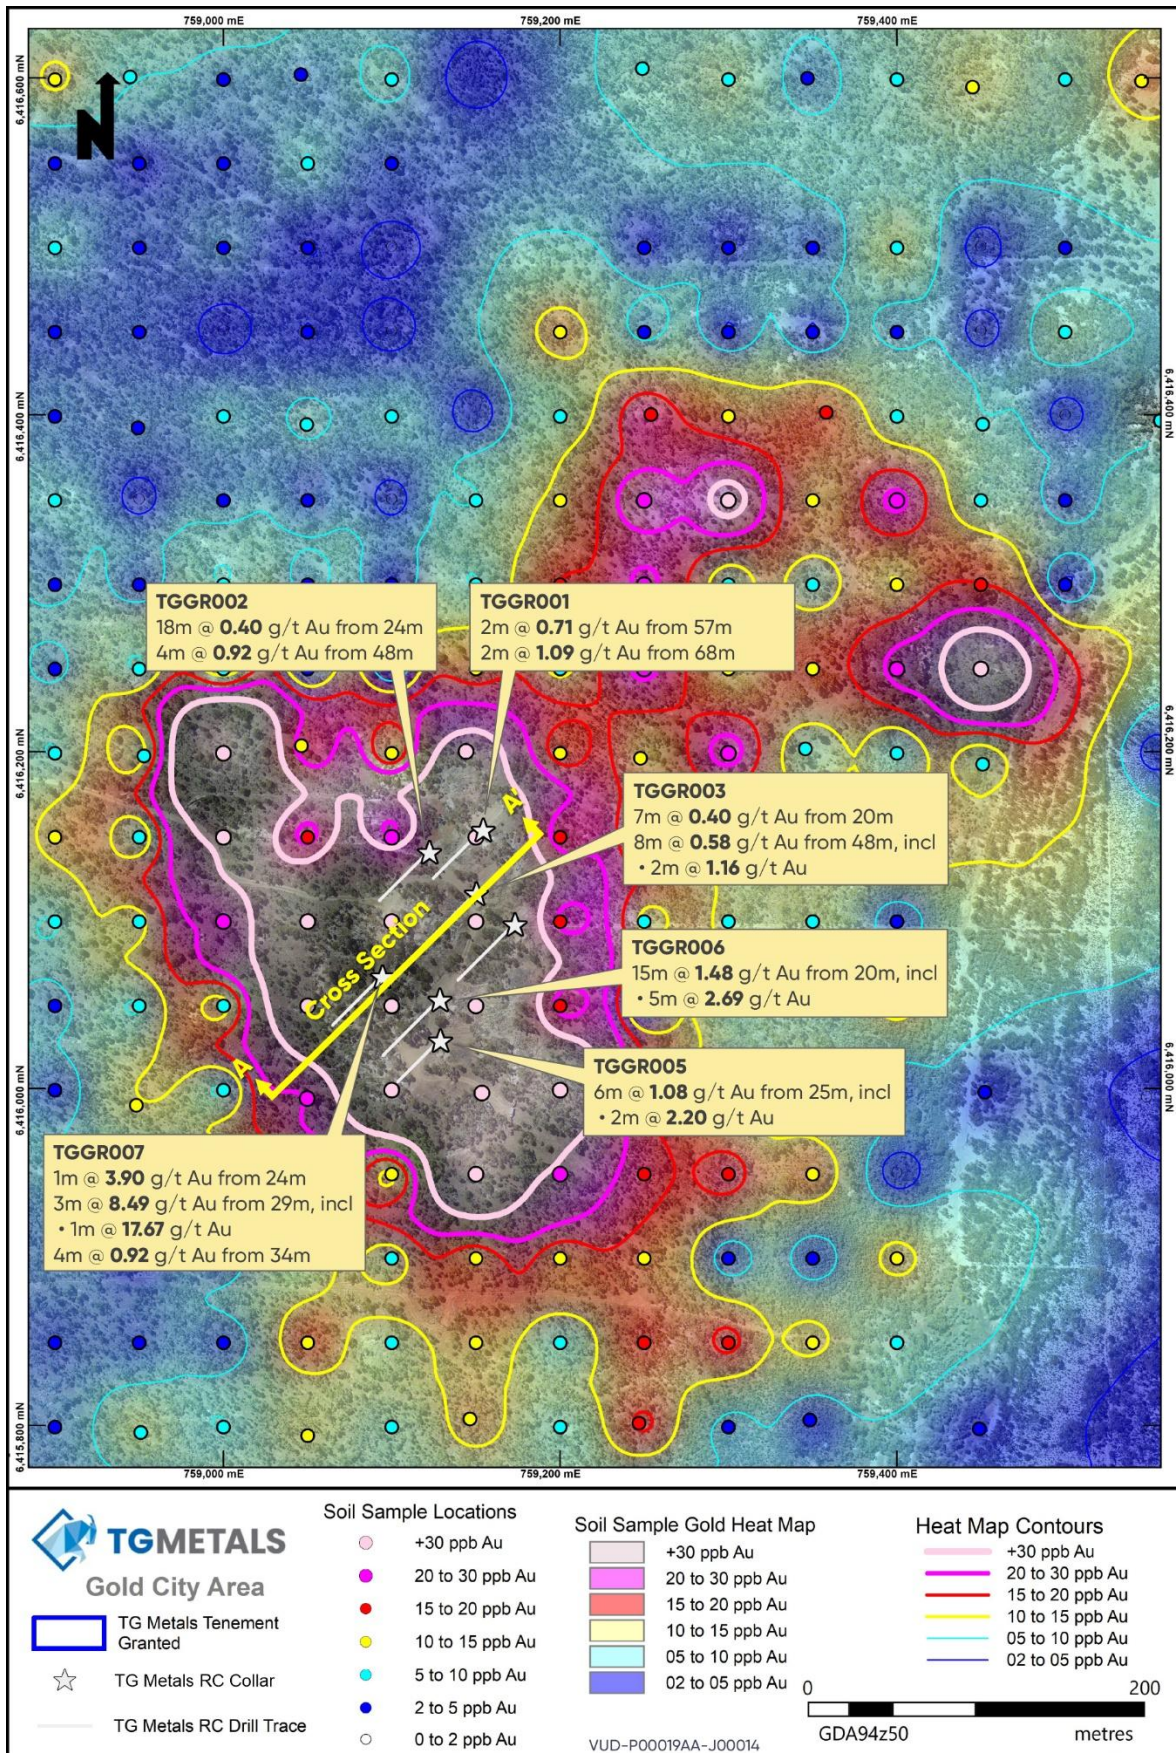
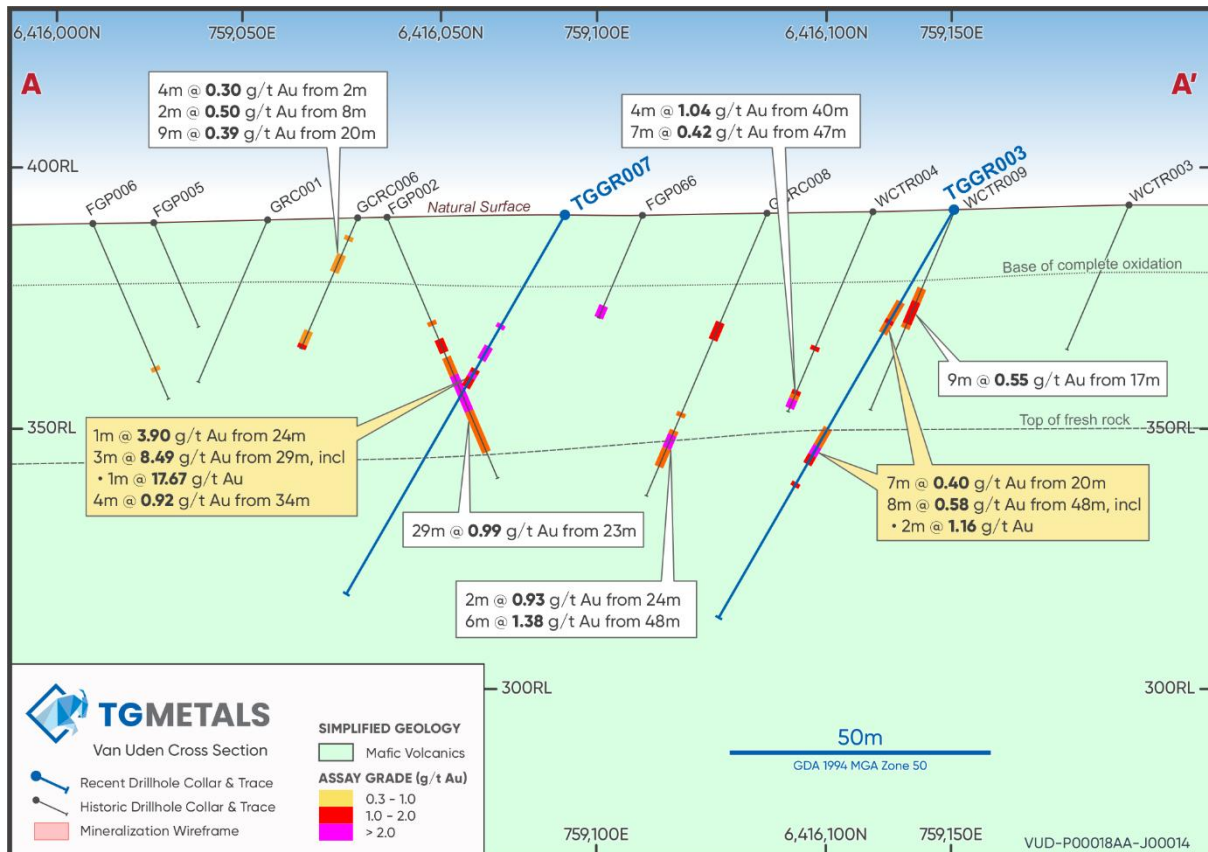

Figure 1 – RC Drilling Collars Showing Intercept Highlights over gold in soil anomaly
Figure 2 – Cross Section A-A' Showing New Drilling, Historical Drilling with gold intercepts >0.3g/t Au
The Company conducted shallow reverse circulation (RC) drilling in an area of old workings in the southern portion of Gold City (**Figure 1**). The drilling was designed to improve the geological understanding in this structurally complex area. Most drillholes intersected multiple gold zones and mineralisation remains open in all directions. Result highlights include:
The purpose of this drilling campaign was to test mineralised positions intersected from historical drilling, interrogate previous drilled positions at depth poorly tested at the eastern margin of known gold mineralisation. A north-easterly plunge is apparent to the mineralised intercepts which confirms the expansion of the gold in soil anomaly to the north-east reported to the ASX, 14 November 2025. **Figure 1** shows the location of the drillholes and the Cross Section in **Figure 2** is aligned with the general plunge. The full results of significant assays above 0.3g/t Au are provided in **Table 2**.